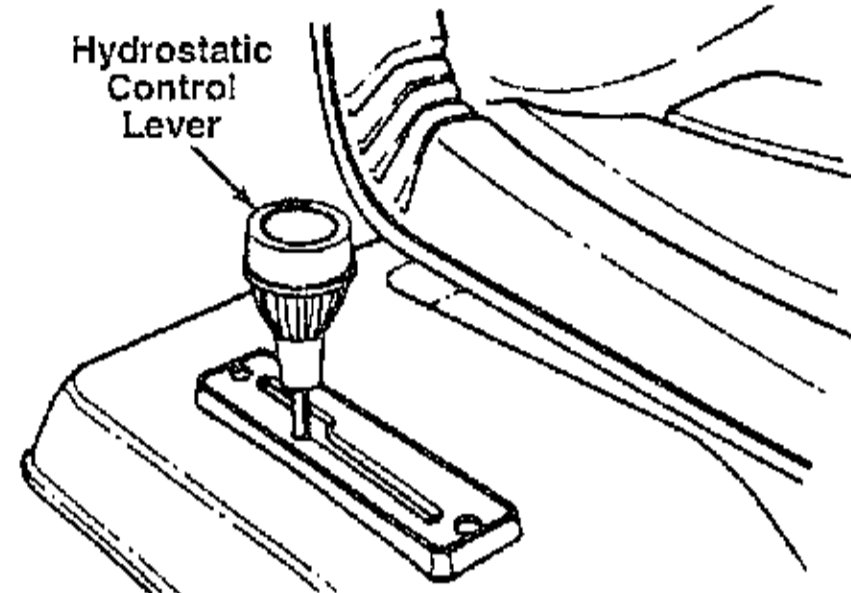

FIGURE 8.
The hydrostatic control lever is located on top of the fender on the right side of the tractor. This single control lever, connected to the hydrostatic transmission, controls both the speed and direction of the tractor. Infinite speed control is achieved by moving the control lever forward or backward. The farther forward or backward you move the control lever, the faster you will travel. Pulling the control lever into the neutral (N) area will stop the tractor. See figure 8.